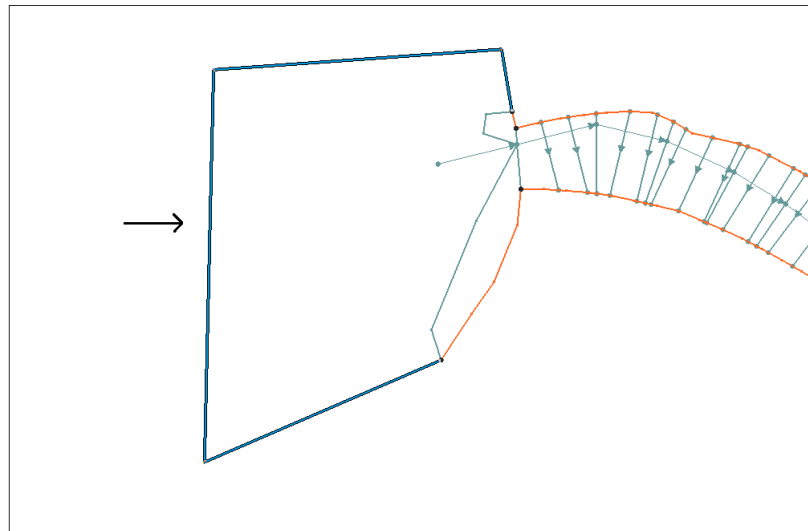

Figure 16 Channel boundary arc to select
2. Using the **Select Feature Arc**  tool, select the most upstream arc (Figure 16).
4. Change *Type* to “1D Flow/2D Water Level Connection (HX)”.